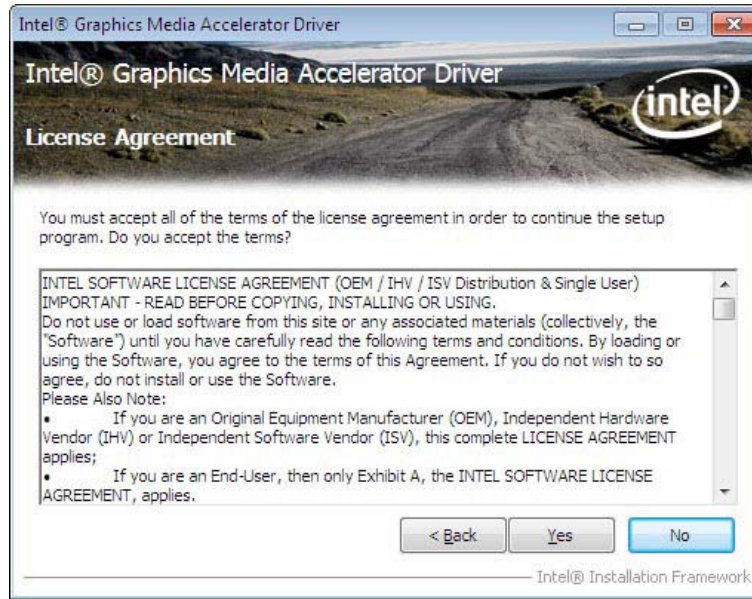

Figure 6-10: Graphics Driver License Agreement
Step 7: The license agreement in **Figure 6-10** appears.